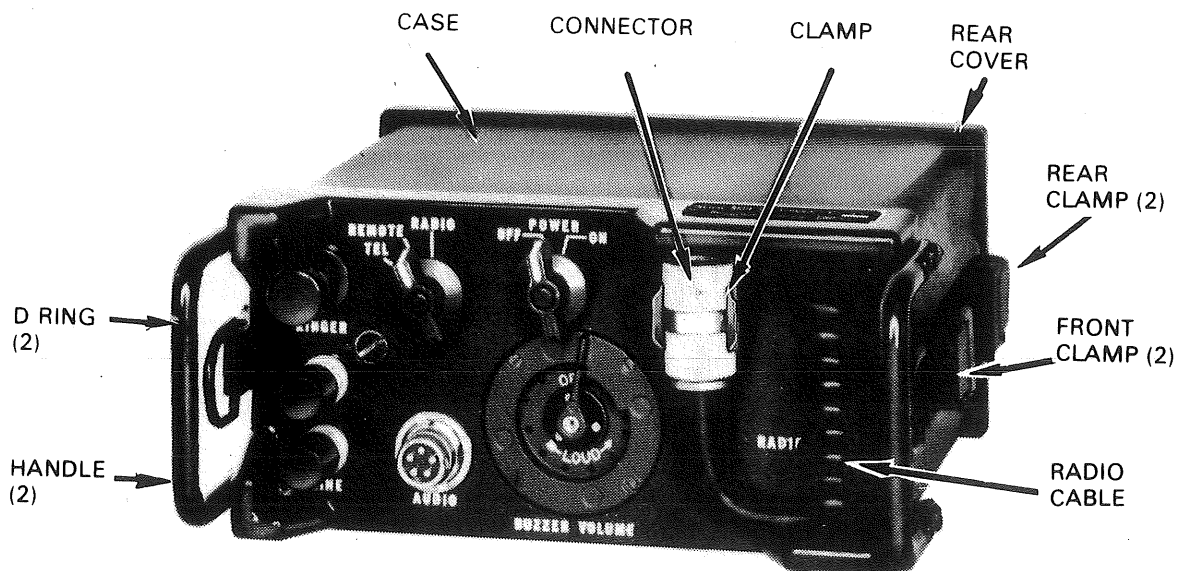

Figure 1. Local Control C-2329/GRA-39.
- a. Refer to figure 1 and 2 for familiarization with operator controls.
- (1) Insure batteries are held in place under tension.
- (2) Insure that battery compartment case is not cracked.